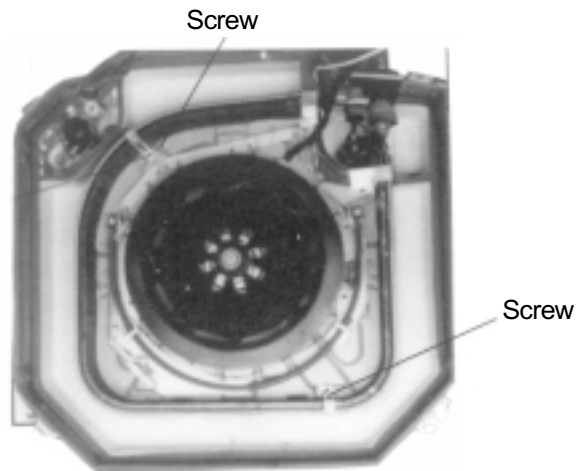

Figure 17
- Unscrew the screw as shown in figure 17, and remove the evaporator supports. Lift the evaporator parts and disassemble it.